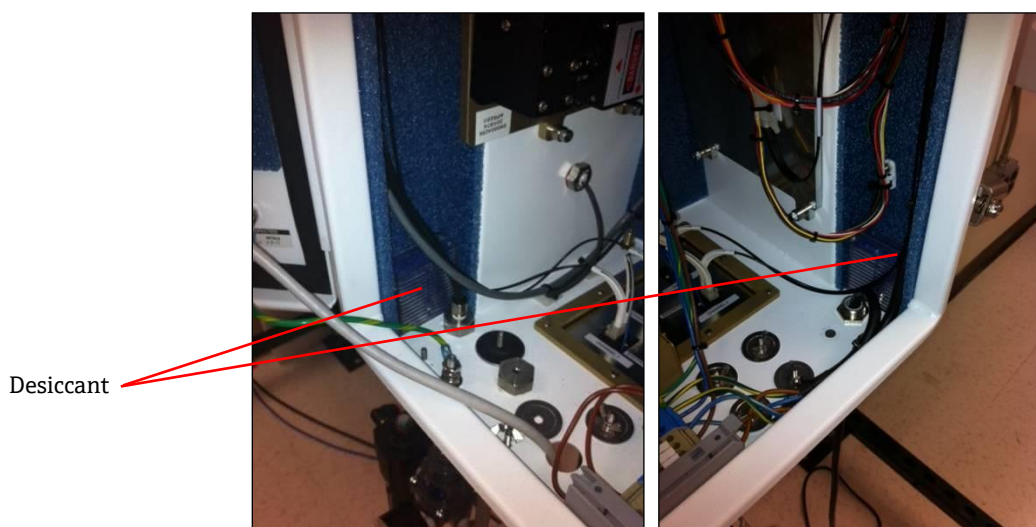

Figure 144. The desiccant cartridges
- Replace the four (4) outer screws and apply Loctite.
- Replace the four (4) inner screws.
- Simply remove the desiccant cartridges (Figure 144) and replace with new or recycled cartridges.